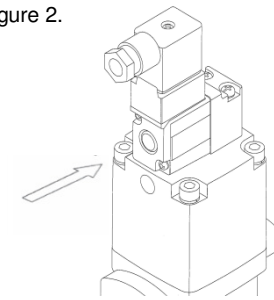

Figure 2
- VNA5-7:** No tool needed. See Figure 2.